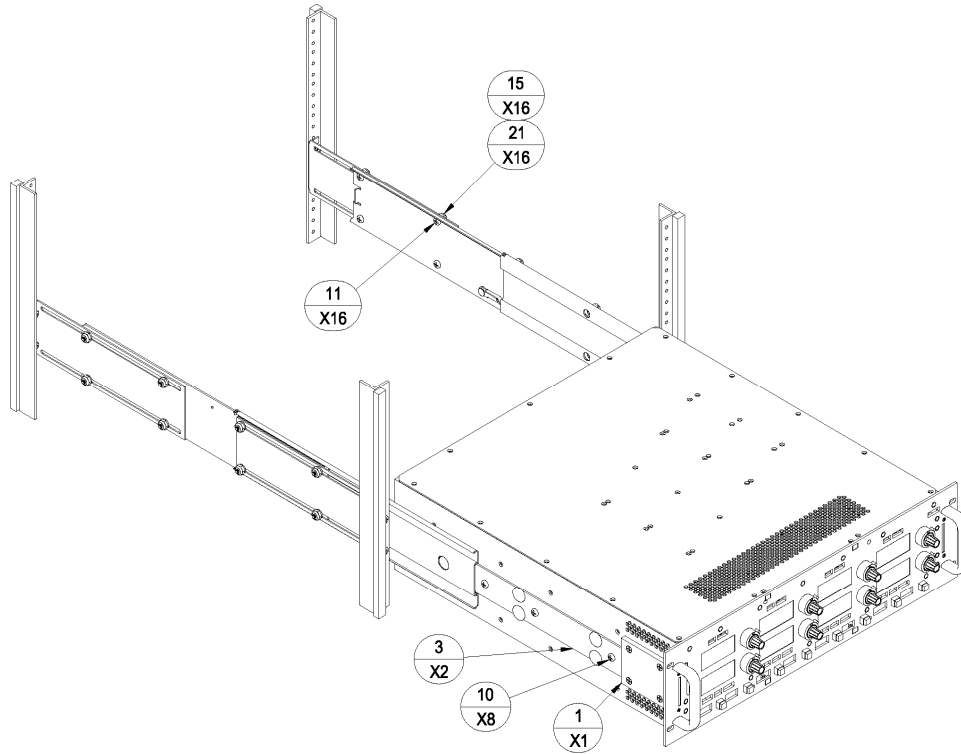

Figure 1
Each slide kit contains 1 pair of slides for the left and right side of the chassis. The slides are symmetrical and individual components can be used interchangeably. Each slide kit consists of four brackets, two slide sections (including two chassis inside sections), and hardware (figures 1, 2 and 3).
- 1) Fully extend each chassis slide assembly, pulling the chassis inside section (item 1) outwards until the chassis and the intermediate sections (item 2) lock into place.
- 3) UltraVolt's **HV Rack** system is equipped with PEM nut-mounting patterns on both sides to mount the rack slides' chassis sections. Mount the chassis inside sections to each side of the **UltraVolt HV Rack** power-supply chassis with four (4) each of the supplied 8-32x1/4 pan-head machine screws (item 10). When doing so, ensure the button stop on the end of the chassis inside section is oriented towards the rear of the system (figure 1).